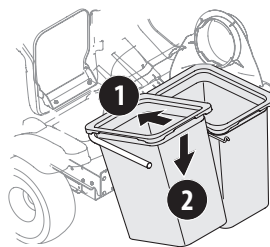

Figure 15
- Install both grass bag assemblies (664-05104) onto the hanger assembly rails by inserting the front edge in first (1), and then setting the back edge down until it fits into the assembly (2), as shown in Figure 15.